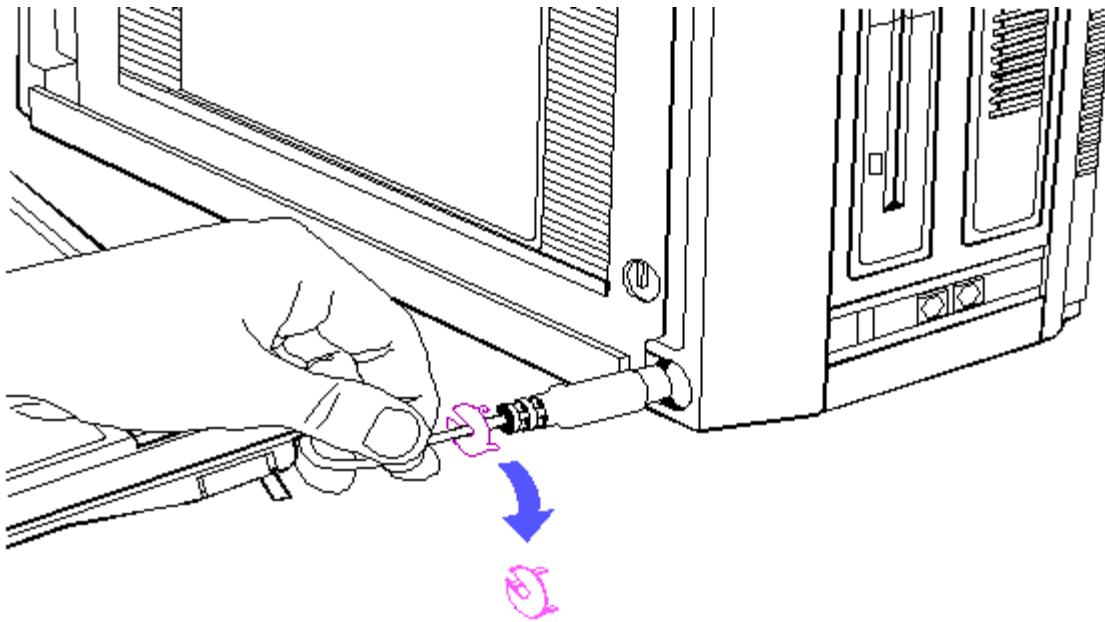

Figure 8-3. Removing the Keyboard Connector Cover
4. Slide the keyboard connector cover off of the keyboard cord and set it aside (Figure 8-3).